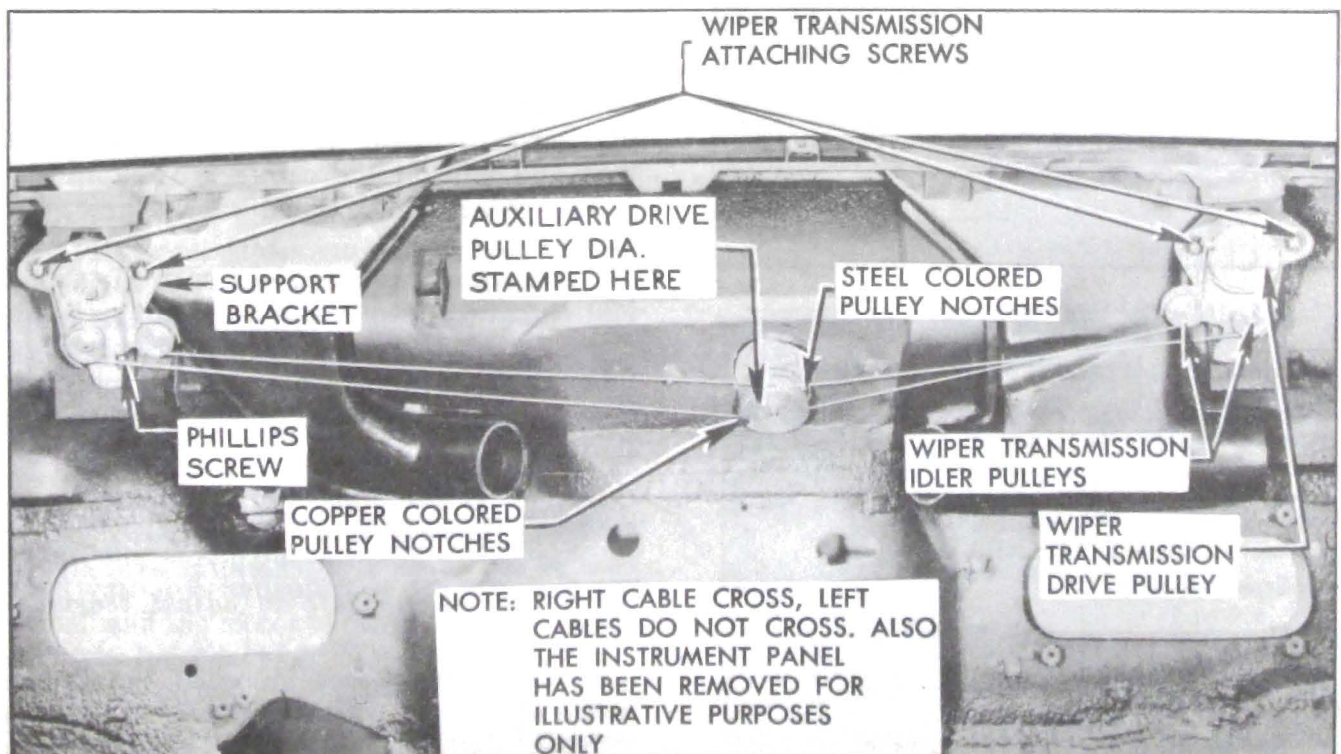

Figure 13-179—Wiper Transmission and Auxiliary Drive Installation
3. Observe and note wiper transmission cable to auxiliary drive attachment to assure proper installation, then disconnect cables from pulleys. See figure 13-179.
colored pulley notches. The right transmission cables cross and the left transmission cables do not cross. See figure 13-179.
4. Observe and note attachment of transmission cables at auxiliary drive pulleys to assure proper installation, then disconnect cables from auxiliary drive pulleys. See figure 13-179.
7. Remove transmission attaching screws. Break seal between transmission gasket and body and remove transmission. See figure 13-179.
“Start” attaching screws but do not tighten them at this time. See figure 13-179.
5. Inside of body, attach transmission cables to auxiliary drive pulleys as shown. **NOTE:** The “right” transmission cables attach to the two “outer” pulleys of the auxiliary drive, and the left transmission cables attach to the two “inner” pulleys of the auxiliary drive. **IMPORTANT:** The copper colored cable ends must be installed to the copper colored pulley notches and the steel colored cable ends must be installed on the steel colored pulley notches. The right transmission cables cross and the left transmission cables do not cross. Fig. 13-179.